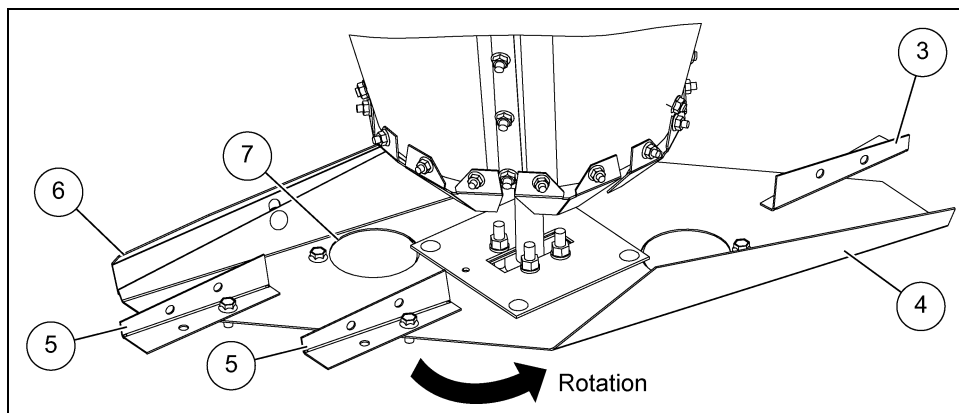

Figure 5B Four Features for Adjusting the Grain Flow Pattern
2. Spreader diverters (grain guide baffles) are used to increase or decrease grain flow resistance over the spreader blade. With the diverters straight, the grain will travel farther. Angled grain diverters shorten the throwing distance. (See Figure 5B.)